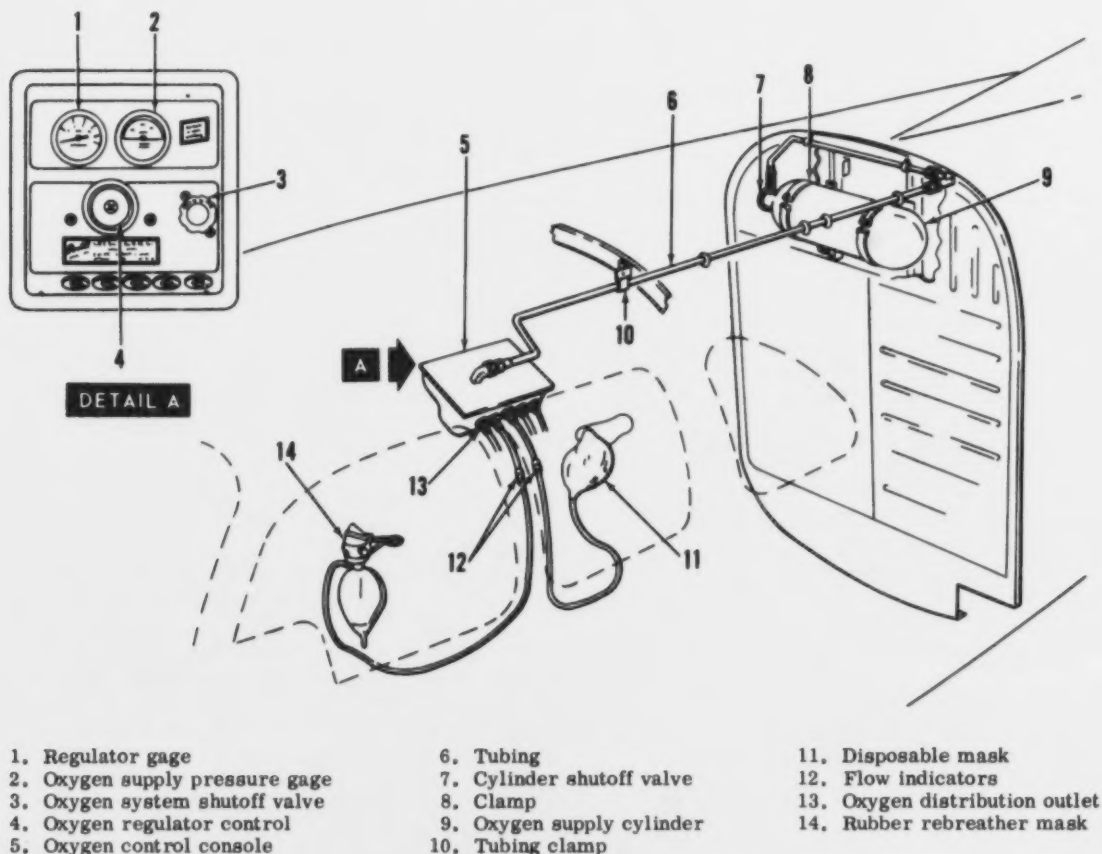
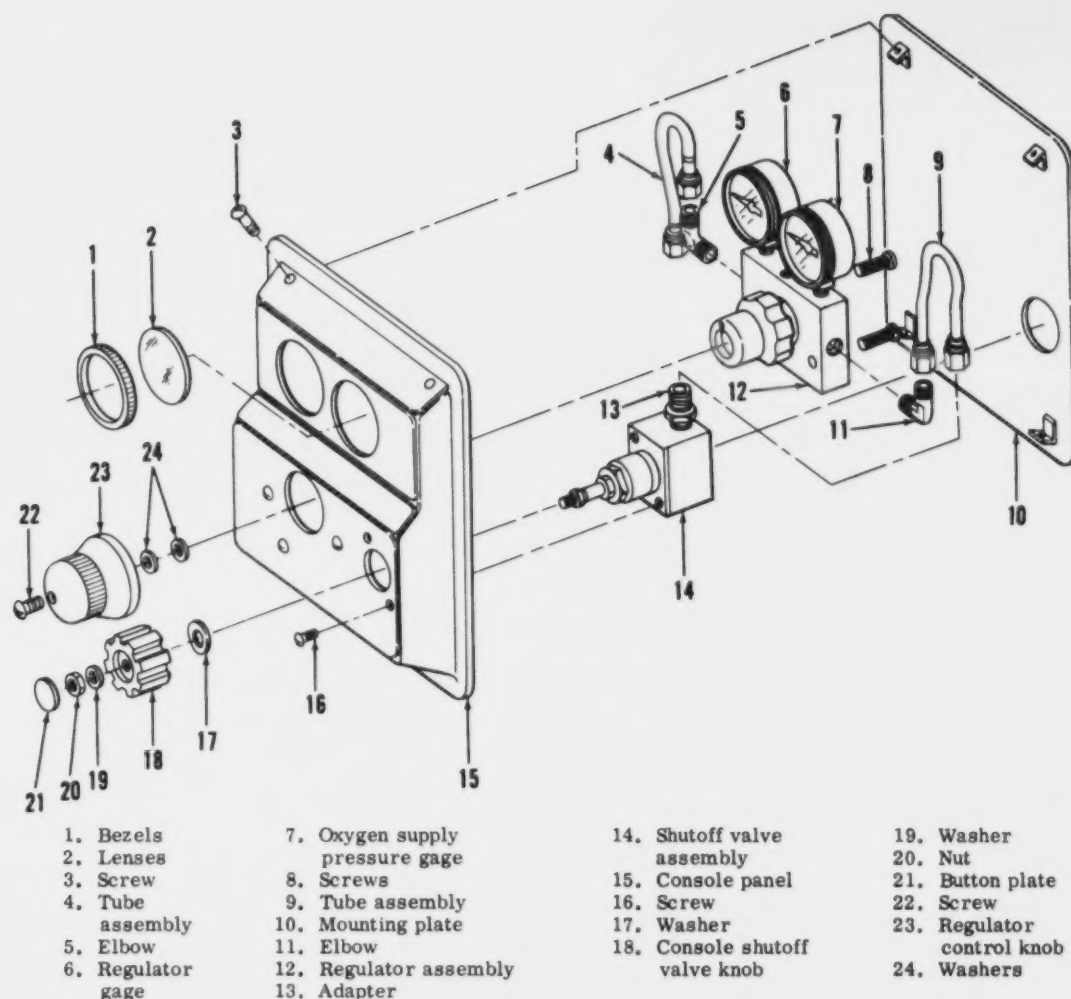

Figure 11-22. Oxygen system (U-8D)
Figure 11-24. Oxygen control console
11-96. The oxygen system (figures 11-22 and 11-23) provides breathing oxygen for the pilot, the copilot, and 3 passengers. Oxygen is supplied from a 38.4 cubic foot, 1800 psi supply cylinder mounted on the forward side of the baggage compartment bulkhead. Oxygen from the supply cylinder is routed through 3/16-inch, high-pressure tube assemblies to an oxygen control console mounted on the fuselage above the pilot's seat. The oxygen control console consists of five oxygen distribution outlets, an oxygen system shutoff valve, an oxygen regulator control,
11-98. The oxygen supply cylinder (9, figure 11-22) is clamped to the forward side of the station 211.0 bulkhead. It has a capacity of 38.4 cubic feet when charged to 1800 psi. Servicing instructions for the cylinder are covered in paragraph 1-147.
a. Removal. (1) Relieve system pressure as follows:
(a) Close cylinder shutoff valve (7, figure 11-22) on oxygen supply cylinder (9).
c. Inspection. (1) Inspect oxygen supply cylinder for cracks, dents, and corrosion.
(2) Inspect fitting for damaged threads.
d. Installation. (1) Secure oxygen supply cylinder (9, figure 11-22) in cylinder mounting clamps (8). Remove caps.
(2) Connect oxygen tube assembly to oxygen cylinder.
11-100. The constant flow type oxygen regulator control (4, figure 11-22), controlled by the regulator control knob (23, figure 11-24) on the oxygen control console (5, figure 11-22), is used to supply sea level oxygen concentrations in high altitude flight to all oxygen distribution outlets. The oxygen regulator control, housed in the oxygen control console, uses a moving stem type valve, which moves away from or toward the valve seat, to govern the oxygen pressure in the low pressure side of the regulator. An orifice in each outlet governs the flow of oxygen. A low pressure relief valve is incorporated in the regulator to prevent excessive pressure from developing in the oxygen delivery system.
a. Removal. (1) Close cylinder shutoff valve (7, figure 11-22).
(2) Plug an oxygen mask coupling into an oxygen distribution outlet (13).
(3) Slowly open oxygen system shutoff valve (3), and adjust oxygen regulator control (4) to allow oxygen to escape through mask.
(7) Remove bezels (1, figure 11-24) and lenses (2) from console panel (15) and gages on regulator assembly (12).
(8) Remove screw (22), regulator control knob (23), and washers (24) from front of console panel (15) and regulator assembly (12).
(9) Remove screws (3) and mounting plate (10).
(10) Disconnect tube assemblies (4 and 9) from elbows (5 and 11) on regulator assembly (12). Cap fittings with clean metal caps.
b. Cleaning. Clean regulator assembly with cleaning compound (item 49, table 1-8).
c. Inspection. (1) Inspect regulator assembly for cracks and corrosion.
(2) Inspect ports on regulator assembly for damaged threads.
d. Installation. (1) Connect elbows (5 and 11, figure 11-24) to regulator assembly (12) and position regulator assembly against console panel (15). Secure with screws (8).
(2) Remove metal caps. Apply thread compound (item 43, table 1-8) sparingly on male threads only, and connect tube assemblies (4 and 9) to elbows (5 and 11) on regulator assembly (12).
(3) Position mounting plate (10) against console panel (15). Secure with screws (3).
(4) Secure regulator control knob (23) to regulator assembly (12) with washers (24) and screw (22).
(5) Secure lenses (2) and bezels (1) to gages on regulator assembly (12), through holes in console panel (15).
(6) Position oxygen control console (5, figure 11-22) in aircraft and remove metal caps from fittings.
(7) Apply thread compound (item 43, table 1-8) sparingly on male threads only. Connect tubing (6) to oxygen control console (5).
(8) Secure oxygen control console (5) to aircraft with mounting screws.
(9) Test system for leaks. (Refer to paragraph 11-109.) Purge oxygen system. (Refer to paragraph 11-110.)
(10) Install ceiling upholstery in accordance with paragraph 4-72.
e. Testing oxygen regulator control. (1) Close oxygen system shutoff valve (3, figure 11-22) and set oxygen regulator control (4) to the full DECREASE position.